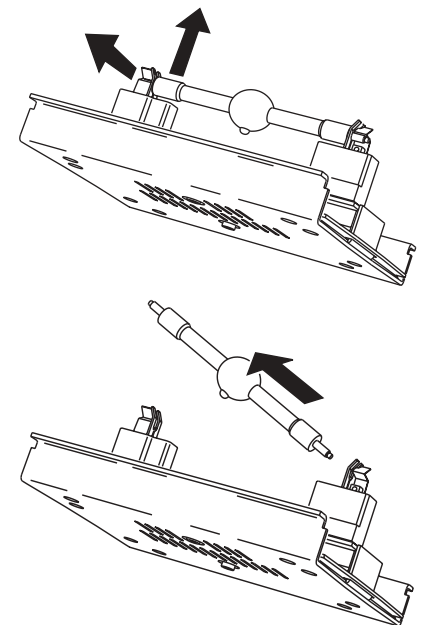

Figure 5: Lamp removal
- 3 See Figure 5. Pull the retention spring on the left end up and then swing the end of the lamp out. Pull the other end out of the socket.